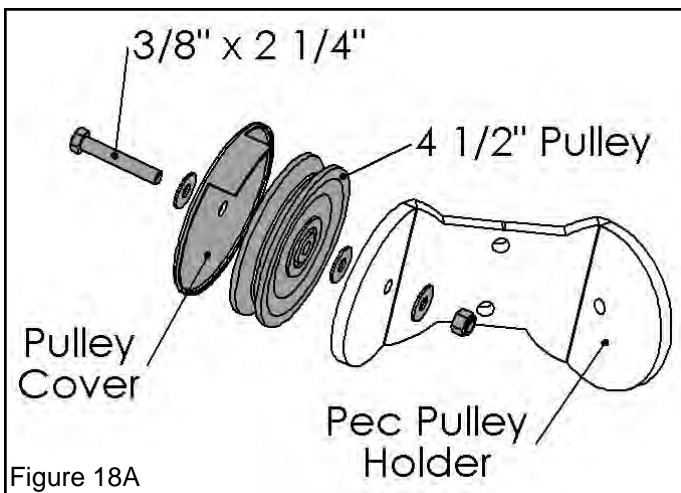

Figure 18A
There should be an additional 3/8" Flat Washer (112) between the 4 1/2" Pulley (126) and the Pec Pulley Holder, see Figure 18A below. Leaving off this washer may cause the pulley to rub the Pec Pulley Holder.